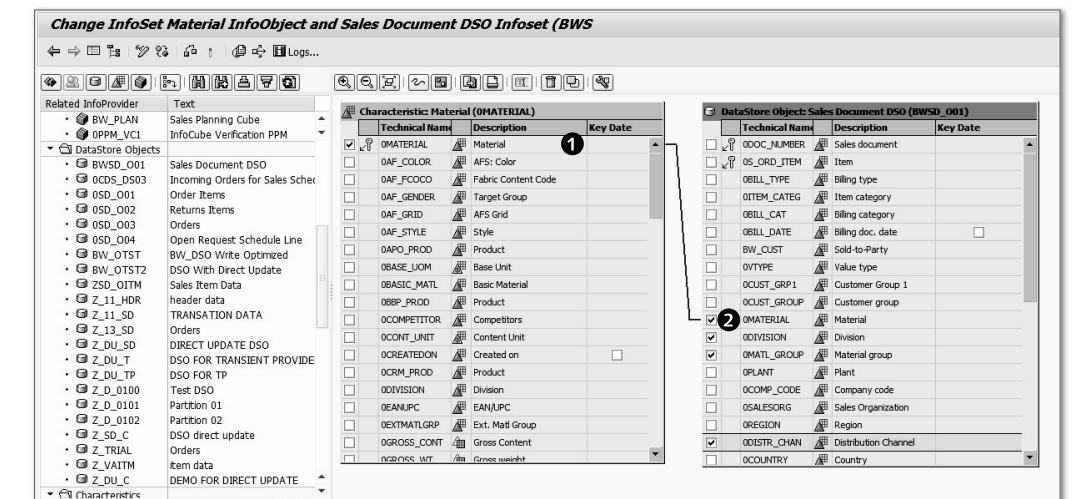

Figure 6.25 Joining Two Sources
SAP BW now creates a join between the OMATERIAL field of the T00001 source object and the OMATERIAL field of the T00002 source object. This is shown as a link from ❶ to ❷ in Figure 6.25. Internally, SAP BW makes this a join condition similar to `T00001.OMATERIAL = T00002.OMATERIAL`.